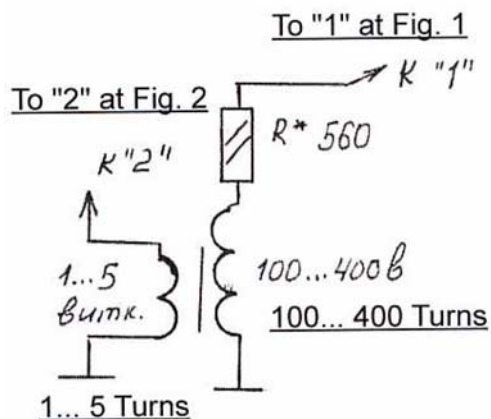
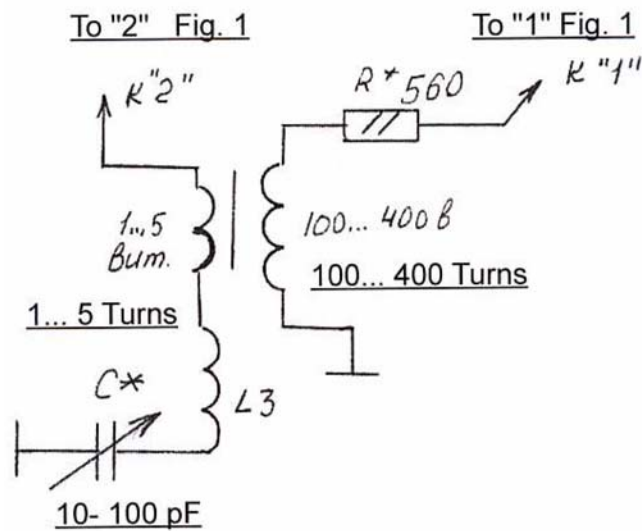
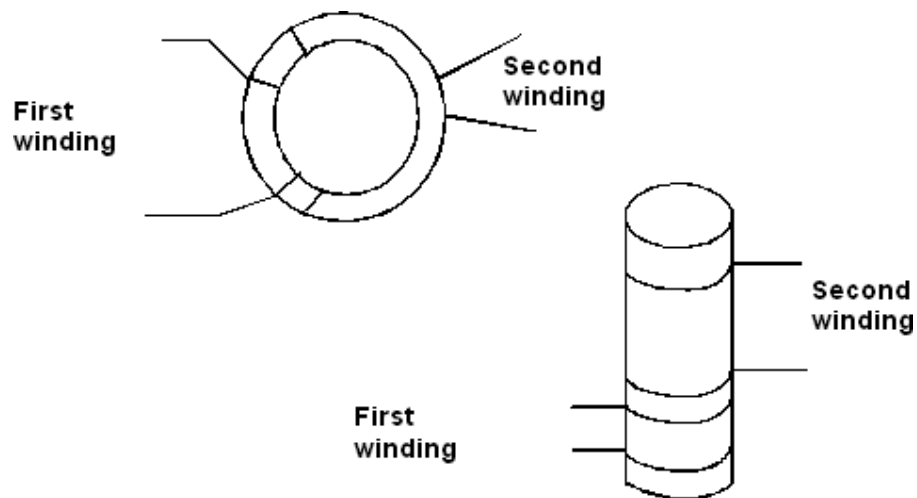
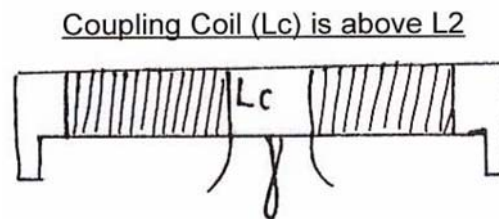

Figure 2 Frequency shift RX/TX circuit
Figure 3 Circuit for shift quartz frequency plus frequency shift RX/TX
Figure 4 Design of transformer for frequency - shift circuit
Figure 5 Design L2
You know, that at RX/TX mode in the DC transceiver the generator should have shift 400- 800-Hz. Sometimes, when we down on the key of the SQT transceiver, we get the shift because changing mode of crystal oscillator. If we have not got reliable shift at the case, we may use circuit shown in **Figure 2**. The circuit is switched of instead jumper and turn on to the RF-amplifier. At TX mode a current going through inductor coiled above ferrite that is changed the permeability of the ferrite. So, we will have shift of the frequency at RX/TX. The shift is depend on quantity turns switched instead jumper (1- 5) and value of the resistor R*. It may be near 500- 5000-Ohms. Any ferrite with permeability 400- 2000 should be used in the circuit. For example, it may be ferrite ring with OD 7- 20-millimeter, ferrite road in 3- 8 mm diameter and 10-40 millimeter long. Wire in diameter of 0.1- 0.3-millimeter (38AWG- 28AWG) should be okay for both inductors. First winding (to point "2") is coiled turn to turn, the second one (to point "1") by pile-up.
Figure 3 shows the circuit. **Table 1** shows data for L3, TR1, TR3, C3, L2C9, RFC1, RFC2. **Figure 4** shows design of transformer for frequency – shift circuit (**Figure 2**, **Figure 3**). **Figure 5** shows design L2.
3. Capacitor C1 from Figure 3